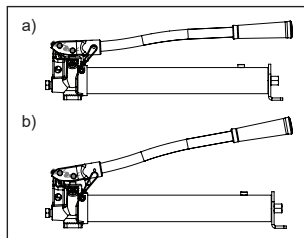

Figure 2 - Push the handle lock latch to unlock the pump handle.
- Push the handle lock latch to unlock the pump handle (Fig. 2).